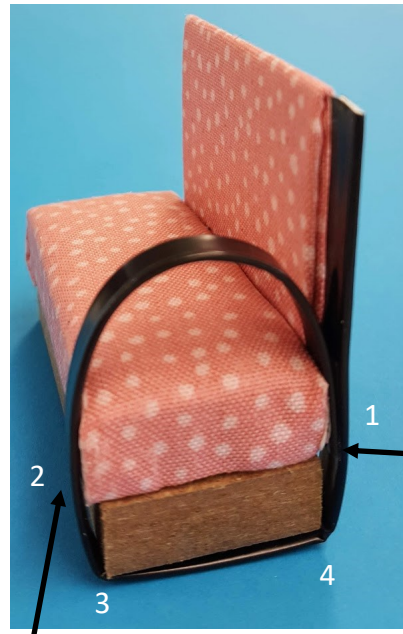

Fig.3
Start off one end of the covered tape on the back of the base as shown. When the glue is dry gently fold the strip upwards and over until it meets the front of the base and the height is about 4 cm from the floor. Glue the strip to the front of the base, covering the fold line at (2). See Fig. 3
Cut a small oblong of double sided tape and stick it to the back of the start of the tape (1) and press the upward travelling tape to it. This is the absolutely best way of doing this. You don't want to spoil your work with blobs of glue in funny places. Fig. 3